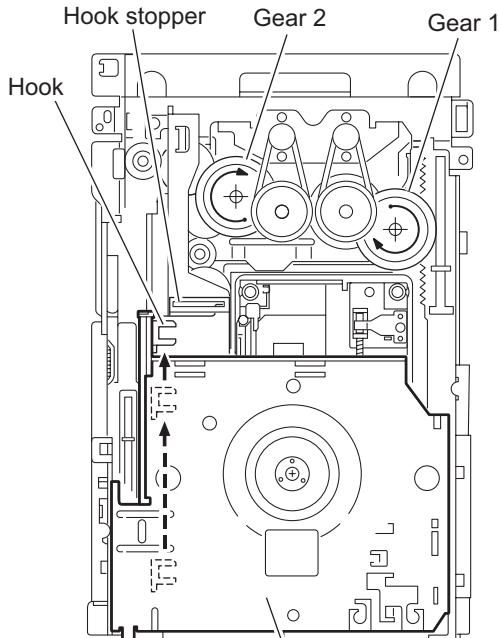

Fig.27
(See Figs.27 to 31)
- Prior to performing the following procedures, remove the tray assemblies, DVD servo board, side (L) assembly and side (R) assembly.
- (1) From the topside of the DVD changer mechanism assembly, turn the gear 1 clockwise to move the lifter assembly upward. (See Figs.27 and 28.)
- (2) Turn the gear 2 clockwise to move the hook toward the front until it stops. (See Figs.27 and 28.)